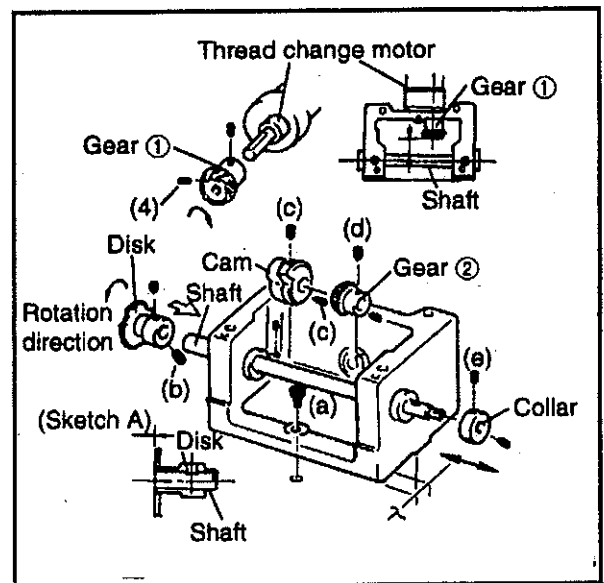

FIG.3
- (3) Remove three retaining screws (a) and the thread change motor bracket (Fig.3).
- (4) Loosen retaining screws (b), (c),(d), and (e)(two pieces for each),and draw out the shaft from the thread change motor bracket (Fig.3).
- (5) Loosen two retaining screws (f) and remove gear ① (Fig.3).